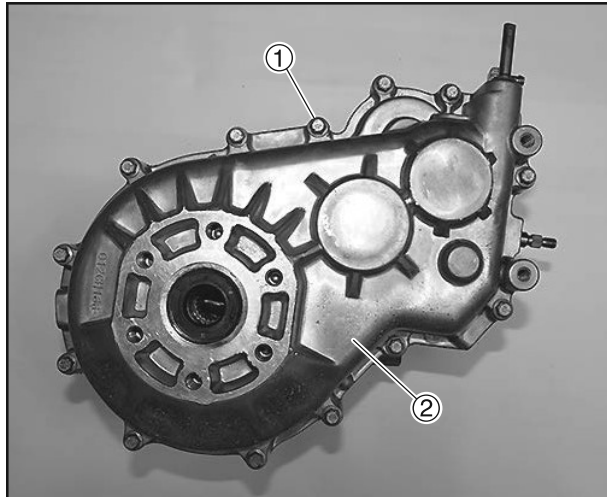

Figure 6-71
4. Remove the bolts (Figure 6-71, (1)) and nuts and remove the transmission case (Figure 6-71, (2)).